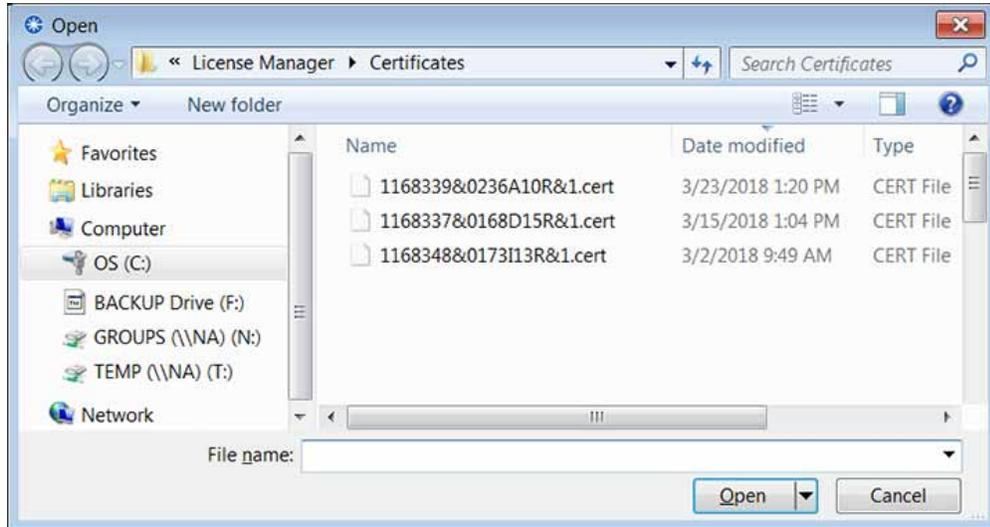

Figure 2-27. License Manager – Import Certificate From File
2. Browse to the directory where you saved the Certificate file, as shown in the example in Figure 2-27.